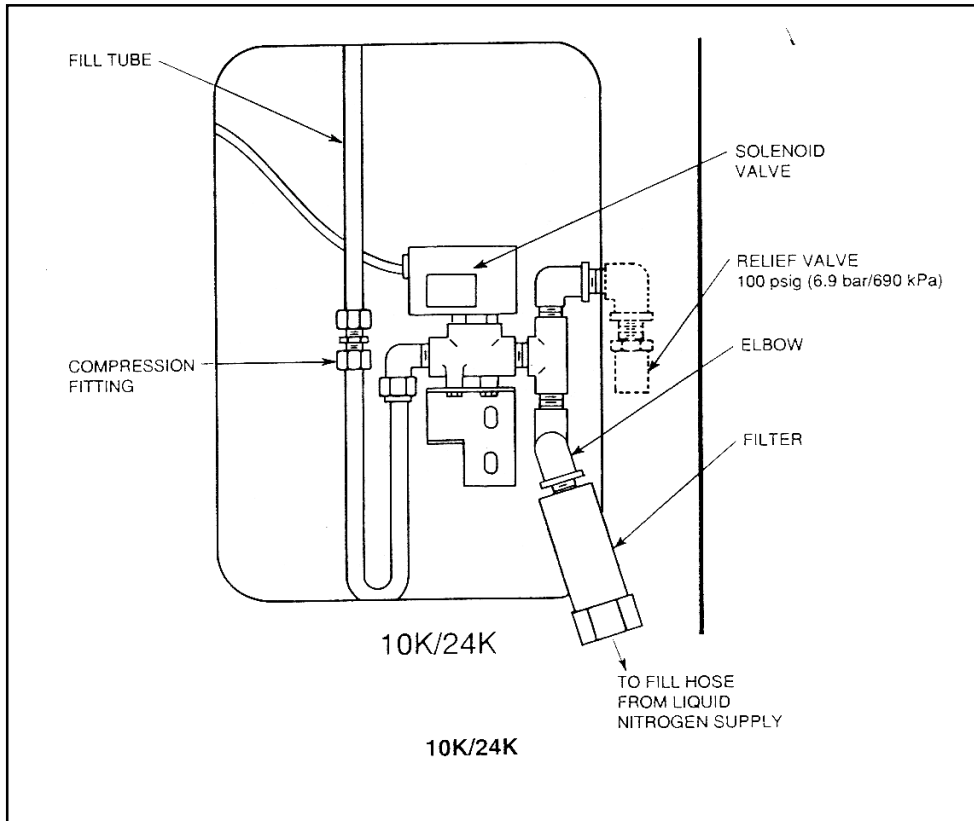

Figure 11. Rear Panel/Plumbing for 10K and 24K
To install a new solenoid valve, attach the connecting plumbing to the inlet and outlet connections of the valve using Teflon tape. Refer to Figure 11 for plumbing arrangement. Attach the compression fitting to the fill tube first and then connect to the outlet side of the solenoid valve. Position the solenoid valve onto the solenoid valve bracket and tighten the two (2) mounting screws. Attach the solenoid valve lead connection to the controller board. At the completion of maintenance or repairs, install the controller using the procedure outlined for your refrigerator model in the **Installing the Controller** section.
Remove the controller using the procedure outlined for your particular refrigerator model in the **Removing the Controller** section. Disconnect only the solenoid valve lead connection from the controller board. Remove the back plumbing cover of the refrigerator to gain access to the plumbing and solenoid valve. (See Figure 11)